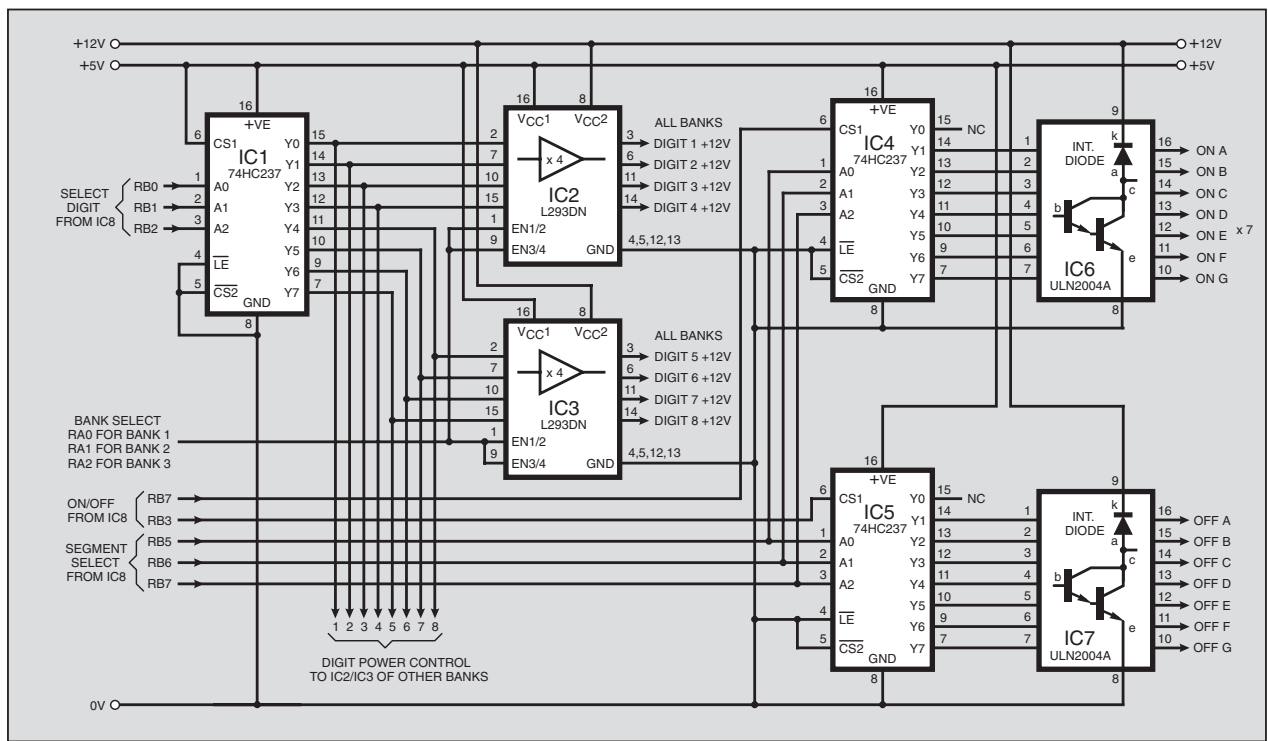
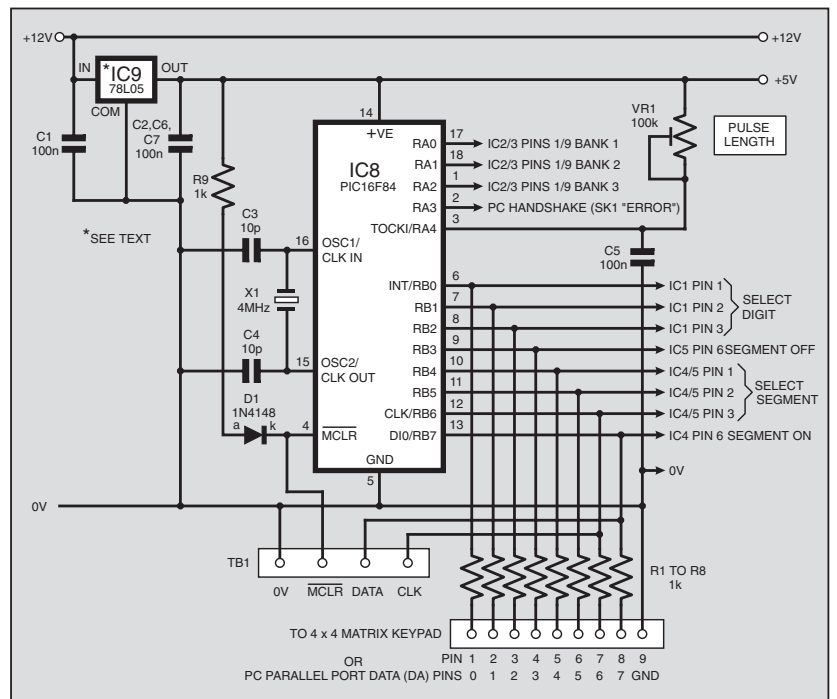

Fig.6. Circuit diagram for the multiplexed control of the digits, basically for eight, but can be modified to control 64 digits.
Fig.7. Circuit diagram showing the PIC16F84 control connections, plus power supply.
The circuit diagram showing the multiplexing and digit drive devices is given in Fig.6. Control data originates from a PIC16F84 microcontroller (discussed presently in relation to Fig.7). Through multiplexer IC1, 3-bit control data selects which digit is to be powered via source drivers IC2 or IC3.
As shown in Fig.6, and designed on the printed circuit board to be described later, eight digits (one “bank”) can be controlled by these two drivers. Additional digit source drivers can be added separately if required (on stripboard for example, although no constructional details on this are offered).
Because of the multiplexing arrangement, a PIC16F84 microcontroller is readily suitable for this design, see Fig.7. It is capable of being user-controlled either via a 16-key (4×4) data entry keypad, or via a PC-compatible computer, running under MS-DOS or Win95/98/ME.
The PIC is run at 4MHz, as set by crystal X1. Port pins RB0 to RB2 control digit selection via IC1 (Fig.6), pins RB4 to RB6 control segment selection via IC4 and IC5, RB7 controls selection of IC4 (segment On control), and RB3 controls selection of IC5 (segment Off control).